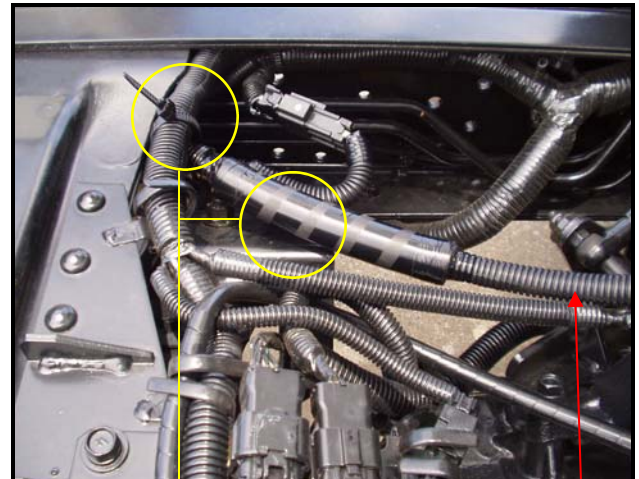

Figure B1 (2002-2004 MY) Without retaining clamp on Transmission mount, use a Tie Strap PN 01552-00043
Step 3A (Metal retaining ring missing or broken) Install, route and secure the battery cable to the chassis harness as shown in Figure B1 using a tie strap PN 01552-00043.